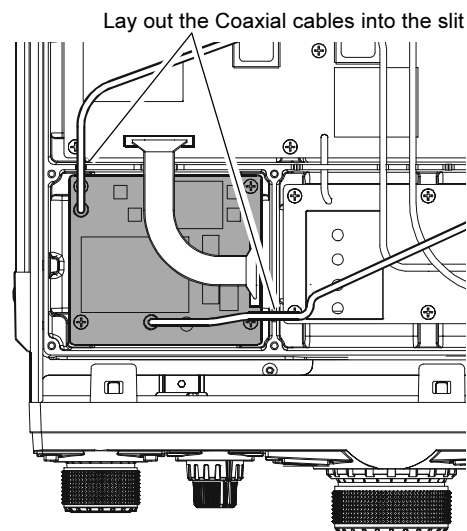

FIGURE 4
8. Referring to Figure 4, lay out the Coaxial cables into the slits of the chassis.